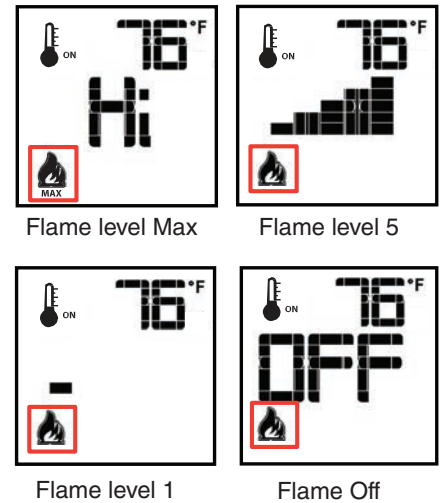

Figure 61: Flame level control.
The Proflame 2 has six (6) flame levels. With the fireplace turned on, and the flame level at maximum height, press the down arrow key once (Figure 61) to reduce the flame height by one step until the flame is turned off.